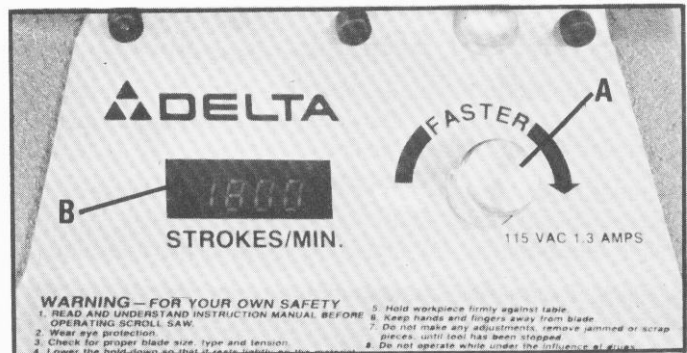

Fig. 15
Your scroll saw can be operated at speeds of 50 to 2000 strokes per minute. The strokes per minute is indicated by the digital readout shown at (B) Fig. 15. To increase the strokes per minute, rotate switch (A) clockwise and to decrease the strokes per minute, rotate switch (A) counterclockwise.